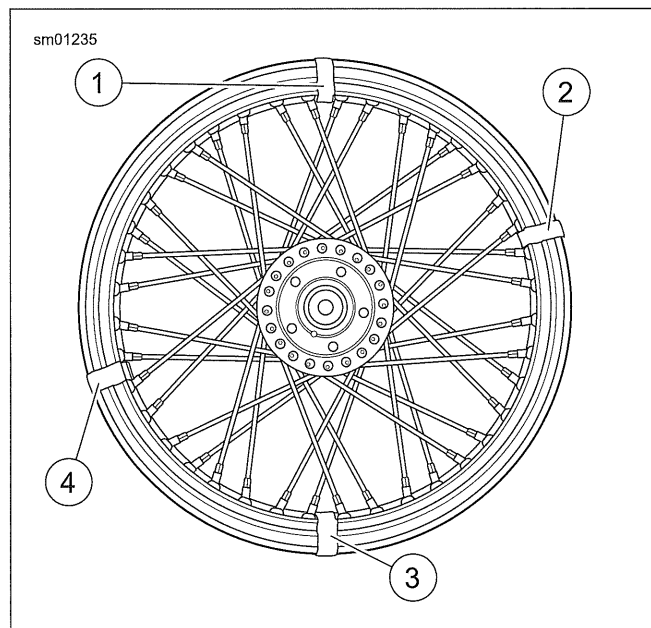

Figure 3-16. Marking Spoke Groups
1. See Figure 3-16. Prepare rim.